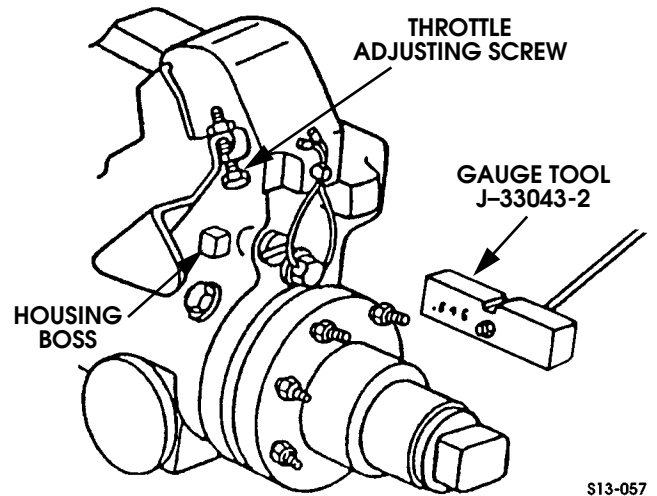

Figure 5-66: TPS Adjustment Gauge Installation
4. Install a 0.646 in. (16.4 mm) gauge tool from tool J-33043-2, between throttle adjusting screw and boss on fuel injection pump housing (Figure 5-66).